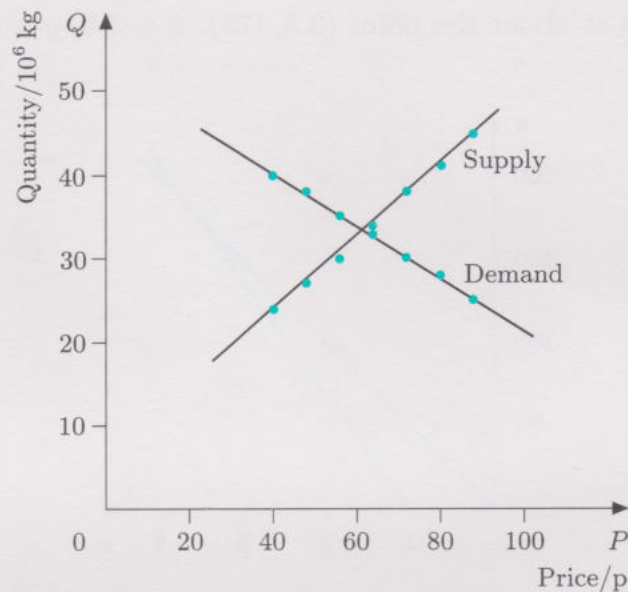

Figure 28
- ◁ **Create model** ▷ These points can be plotted on a graph and, if both demand and supply are assumed to change in a linear way with price, then two straight-line graphs result. If the data from Tables 12 and 13 are entered into your calculator, then the resulting regression lines are as shown in Figure 28.